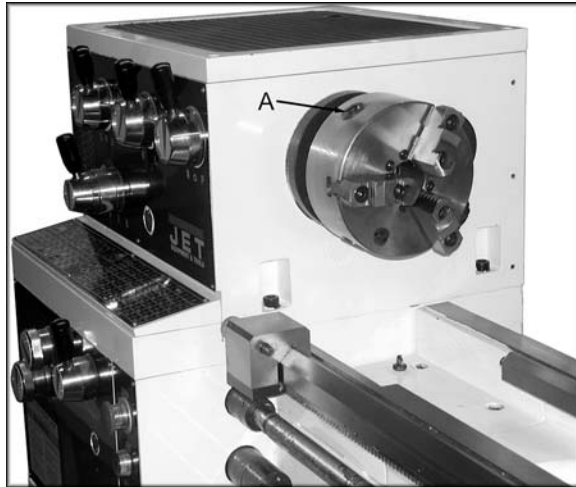

Figure 1
3. Turn cam locks (A, Figure 1) to release the chuck.